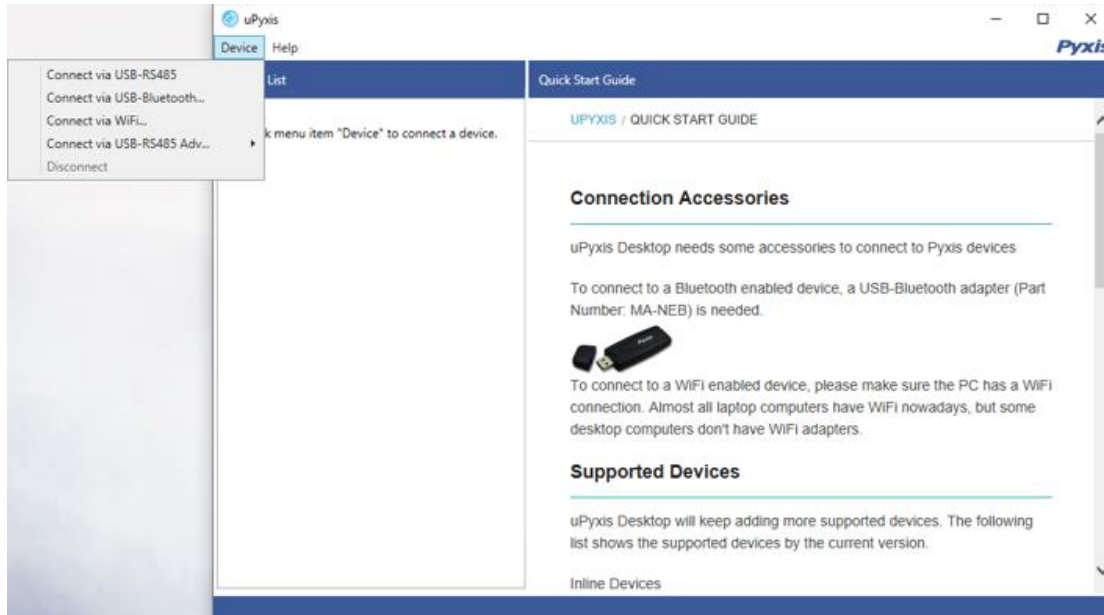

Figure 21 Connection Options
4. Select the Comm Port to make a connection (Figure 21) (normally only one Comm port is identified by uPyxis. If more than one Comm port listed in the selection dropdown, you may try to select each one to see if a connection can be made. Alternatively, you may use the Windows Device Manager to identify the Comm Port that the Pyxis USB adapter is used.)